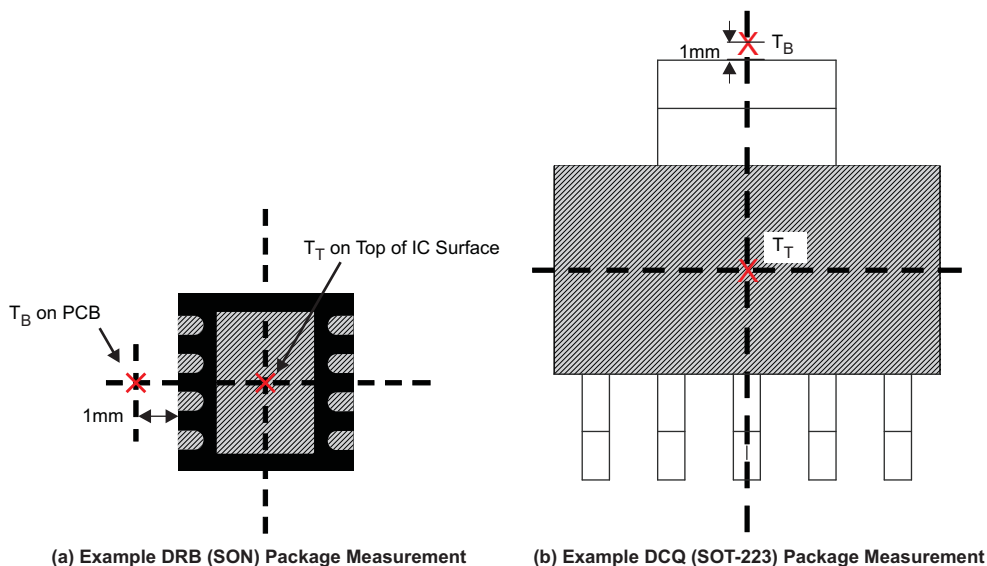

Figure 31. Measuring Point for  $T_T$  and  $T_B$
- $T_B$  is the PCB temperature measured 1 mm away from the IC package *on the PCB surface* (see Figure 31) (6)